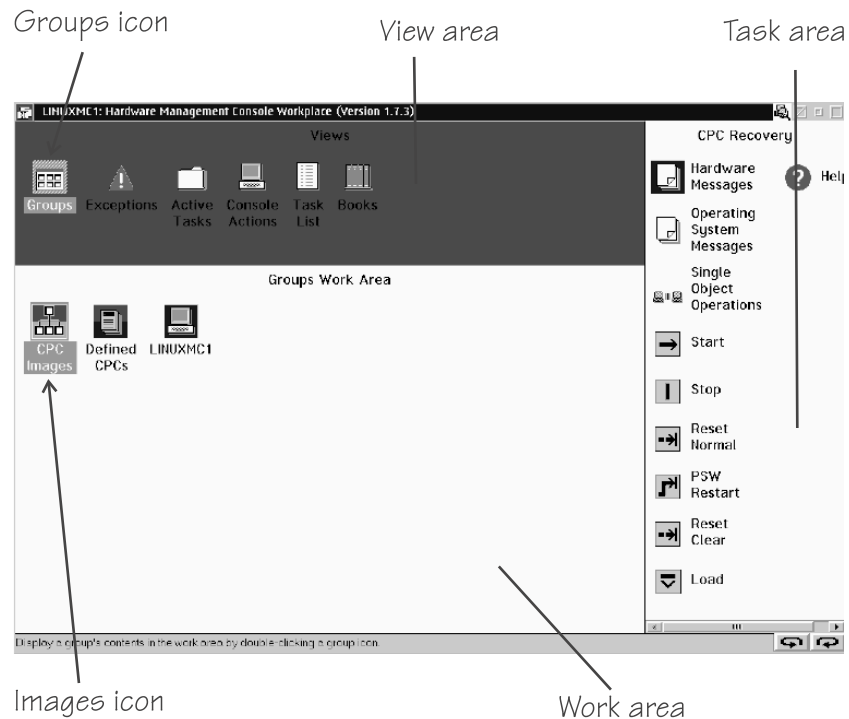

Figure 67. Groups Work Area on the HMC
1. Click the Groups icon in the “Views” area of the HMC to display the “Groups Work Area” (Figure 67 on page 353).